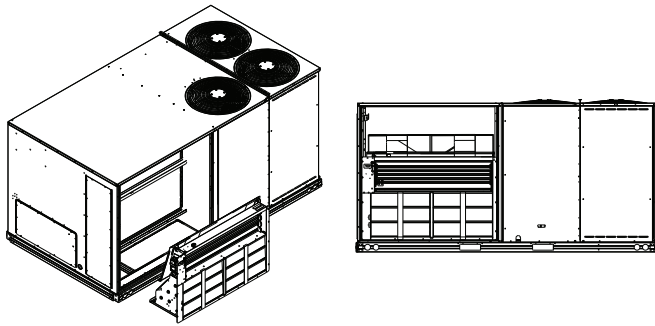

Fig. 3 — Insert Vertical EconomizerONE into the RTU
4. For CRECOMZR109A00 and CRECOMZR111A00 vertical installations — Slide the EconomizerONE into the unit as shown in Fig. 3. Secure the economizer with the screws provided.